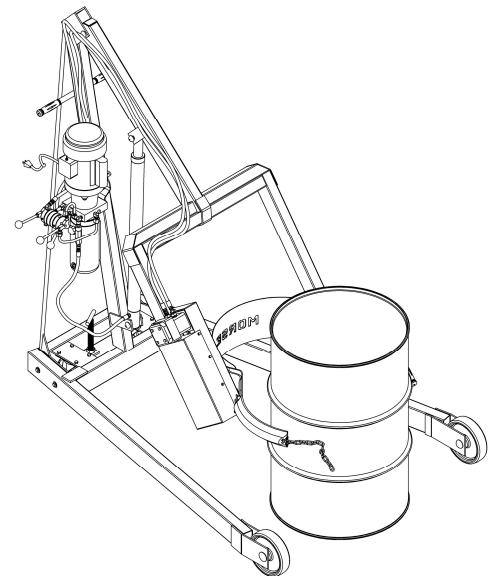

Figure 3.1
The screw-down floor lock is located on the base of the tower (figure 3.1). Turning the floor lock clockwise until it locks in the down position activates the floor lock. When the floor lock is activated it prevents unwanted free wheeling of the unit. Floor conditions determine the effectiveness of the floor lock. The operator should verify its holding action before depending on it to hold.
2. Using the “LIFT” control as described in “Machine Description - Controls” position the drum holder assembly with the back band at the middle of the drum. (Figure 3.1). With the ratchet plate swung open and the cinch chain hanging from the chain hook, push the unit until the back band rests firmly against the drum. Some adjustment to the tilt angle of the saddle may be necessary to ensure band fits flush on the drum.